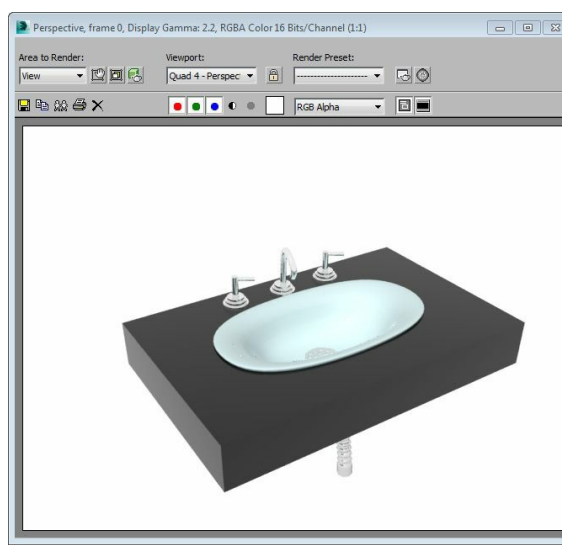

Figure 10-80 The final output at rendering
3. Choose the **Render Production** tool from the **Main Toolbar**; the **Rendered Frame** window is displayed, which shows the final output of the scene, refer to Figure 10-80.